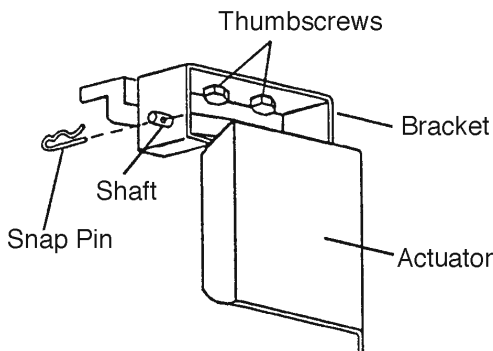

Fig. 8
5) Remove the bin control bracket assembly. See Fig. 8.